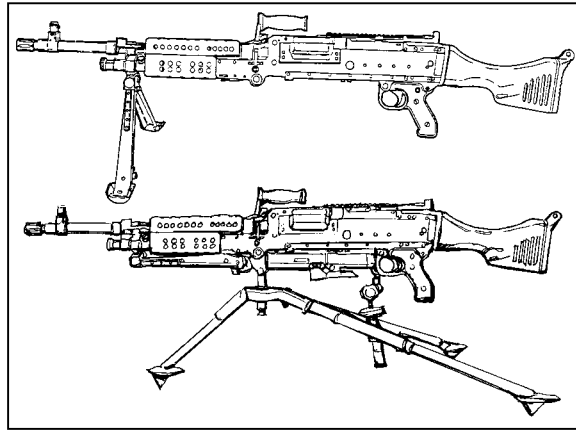

Figure 3-1. M240B machine gun, bipod and tripod mounted.
The M240B is a general-purpose machine gun. (Figure 3-1) It can be mounted on a bipod, tripod, aircraft, or vehicle. The M240B is a belt-fed, air-cooled, gas-operated, fully automatic machine gun that fires from the open bolt position. Ammunition is fed into the weapon from a 100-round bandoleer containing a disintegrating metallic split-link belt. The gas from firing one round provides the energy for firing the next round. Thus, the gun functions automatically as long as it is supplied with ammunition and the trigger is held to the rear. As the gun is fired, the belt links separate and are ejected from the side. Empty cases are ejected from the bottom of the gun. A spare barrel is issued with each M240B, and barrels can be changed quickly as the weapon has a fixed head space. However, barrels from different weapons should not be interchanged. The bore of the barrel is chromium plated, reducing barrel wear to a minimum.
a. **Sights.** The front sight is attached to the barrel and can be adjusted for elevation and windage to allow the gunner to zero his weapon. Since the sight on the barrel is adjusted to zero the machine gun, both barrels must be zeroed before combat and training. The rear sight is attached to the rear of the receiver and is marked for each 100 meters of range, from 200 to 800 meters on the upper surface of the leaf, and on the reverse side of the leaf from 800 to 1,800 meters. (Figure 3-1)
b. **Safety Mechanism.** The safety mechanism is located on the pistol grip just behind the trigger well. When the safety is pushed to the right, the letter “S” is visible indicating the weapon is on safe. When pushed to the left, the letter “F” is visible on the safety indicating the weapon is on fire. The safety can only be engaged when the bolt is in the rear position. On the “S” position, the bolt cannot be released to go forward (Figure 3-1).